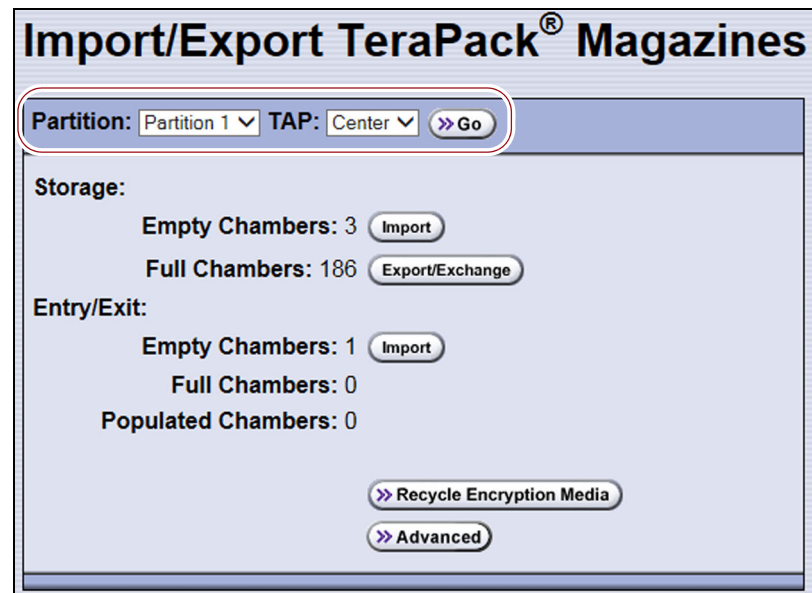

Figure 149 Select the partition and the TAP (storage partition shown).
- If you plan to import cartridges directly into the partition's storage pool, make sure that the storage pool has an empty chamber for each magazine you plan to import. The partition's Import/Export TeraPack Magazines screen shows the number of empty chambers available in the partition's storage pool (see Figure 149 on page 241). If there are no empty chambers available in the storage pool, export one or more magazines from the storage pool (see Export Magazines from a Partition on page 249).